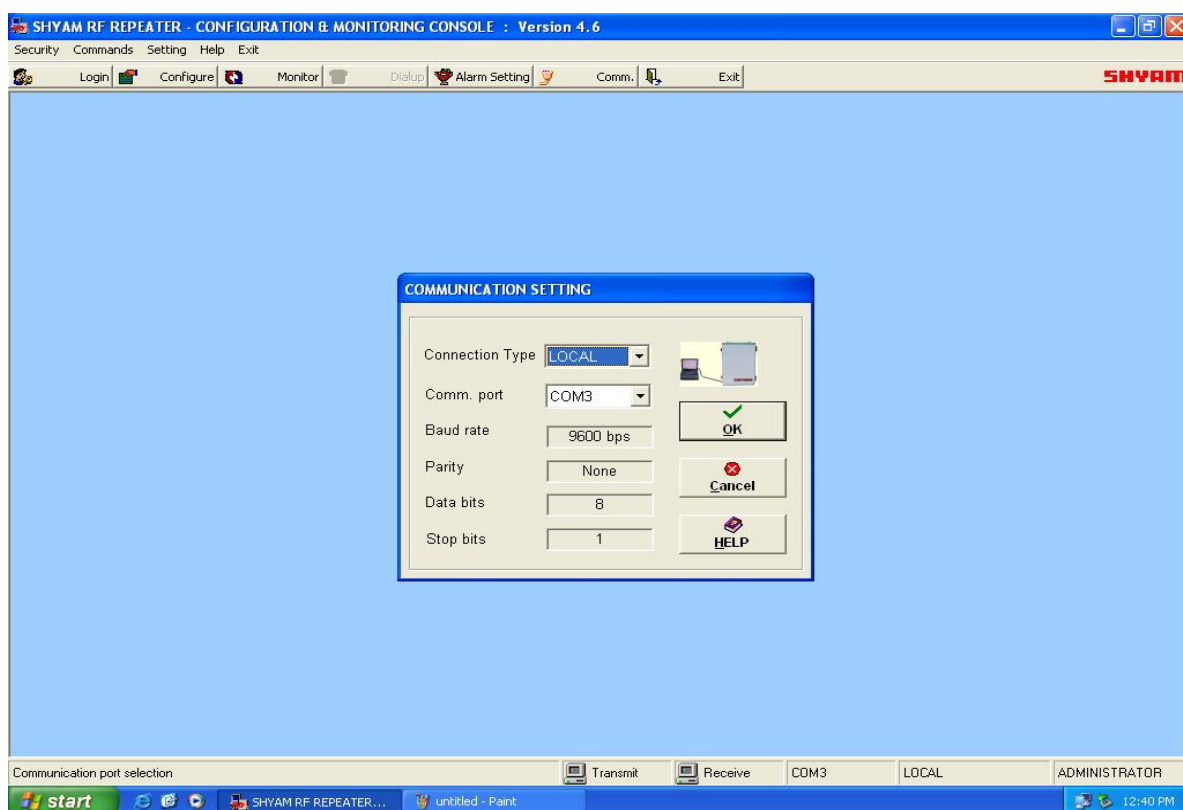

Figure 6: Communication Window
V) Communication Window (Figure 6)